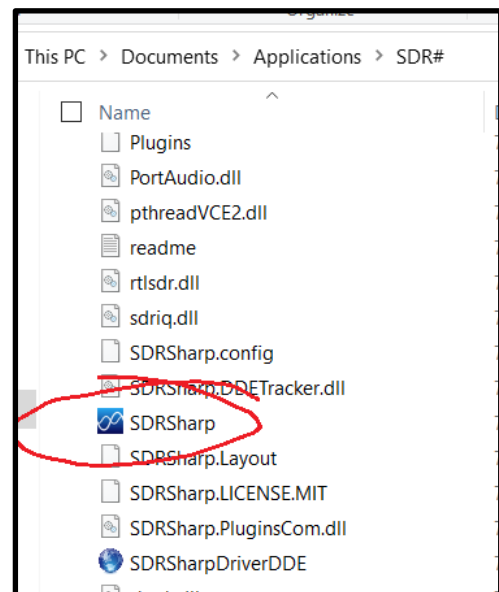

Figure 8 Doubleclick on the SDRSharp Application
10. Open SDRSharp by clicking on the SDRSharp application icon which is in the same folder as Zadig (Figure 8).